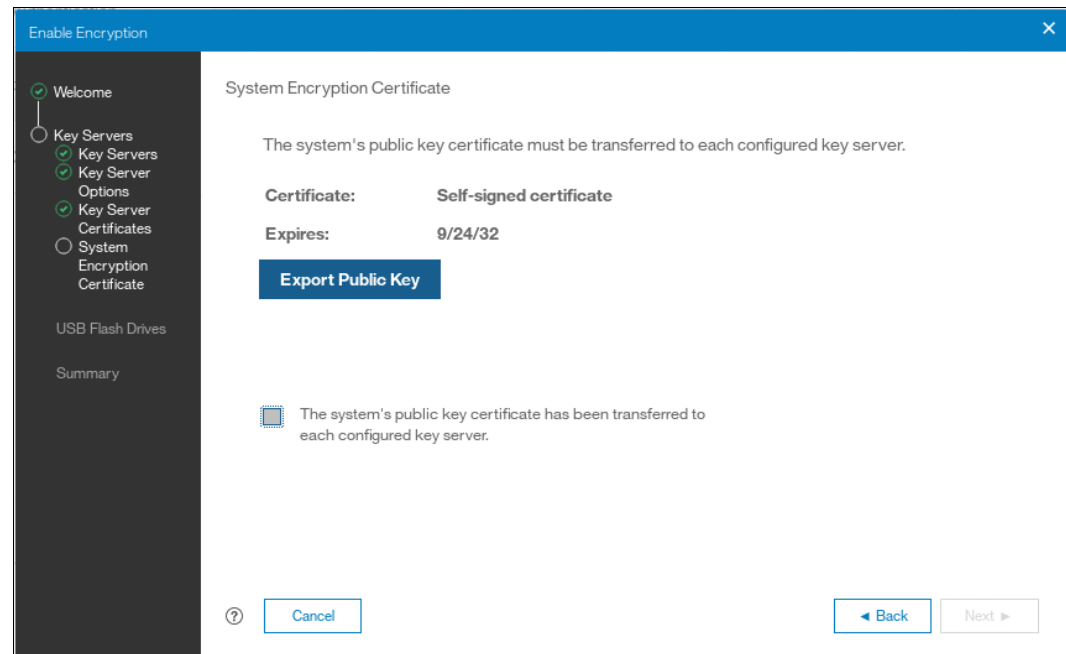

Figure 13-45 Downloading the controller firmware SSL certificate
7. Subsequently, configure the SKLM key server to trust the SSL certificate of the controller firmware system. You can download the controller firmware system public SSL certificate by clicking **Export Public Key**, as shown in Figure 13-45. You should install this certificate in the SKLM key servers in the SPECTRUM_VIRT device group.